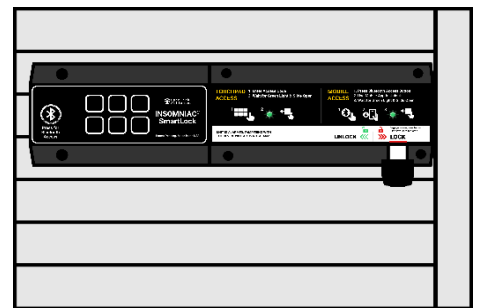

Figure 3
**Align the SmartLock** with the mounting holes, ensuring the 4 integrated post studs fit properly (Fig.3). **Install one pop rivet** in the top mounting hole to temporarily secure the SmartLock. This will serve as a pivot point for adjustments. Move to back of door and **hand tighten the 4 Locking Nuts** onto the post studs.